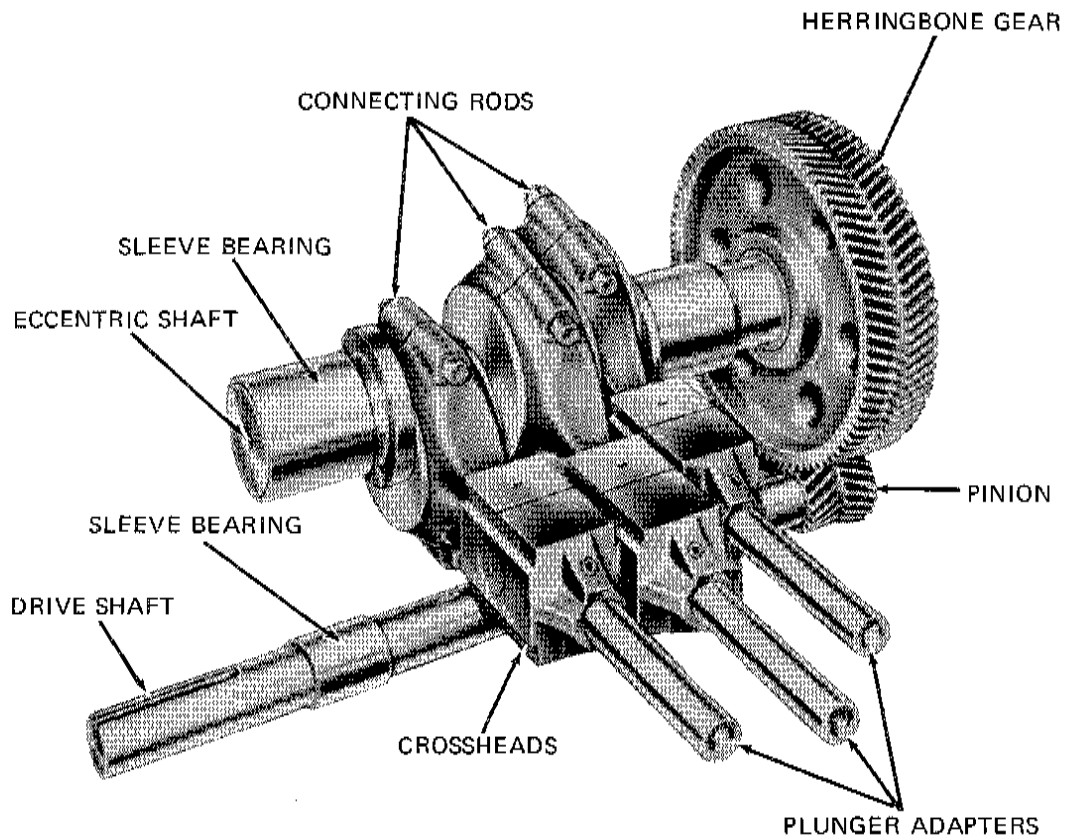

Figure 22
(Figure 22, Plates B166, B167)**
8. If pinion and driveshaft assembly is also to be removed when the driven sheave, (item 18) has been removed, the driveshaft assembly will slide out with the large gear as the gear puller moves the gear out.
**DRIVESHAFT ASSEMBLY (Figure 22, Plates B166, B167)**
#### **ECCENTRIC SHAFT & BEARINGS (Figure 22, Plate B167)**
#### **CONNECTING ROD AND CROSSHEADS (Figure 22, Plate B167)**